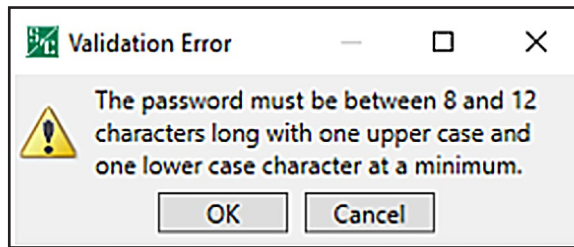

Figure 49. The Validation Error dialog box.
STEP 6. If the password was not successfully validated, the Validation Error dialog box will open. See Figure 49. Click on the **OK** button to attempt to change the password again. Go to Step 3 on page 116.